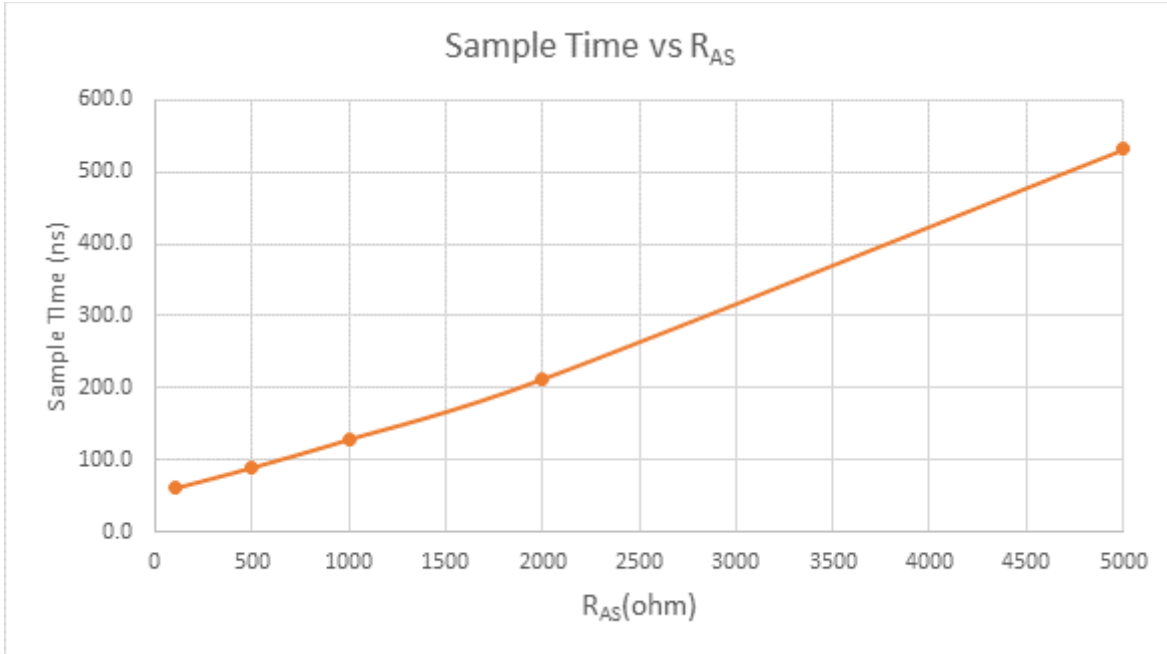

Figure 61. Sample time vs.  $R_{AS}$
- 3 See Figure 61.
3 See Figure 61.